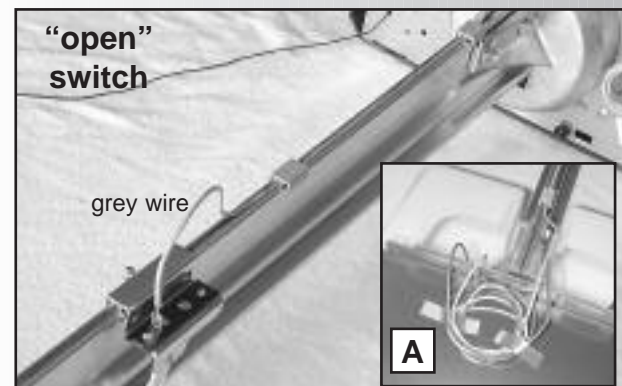

Fig. 1-11
- Place “OPEN” limit switch over top of boom about 12 inches from power head. **Fig. 1-11.**
- Attach grey wire to switch. **Fig. 1-11.**
- Leaving some slack in wire (**Fig. 1-11**), run wire down inside groove in top of boom back to power head.
- Use wire clip [44] to help maintain slack. **Fig. 1-11.**